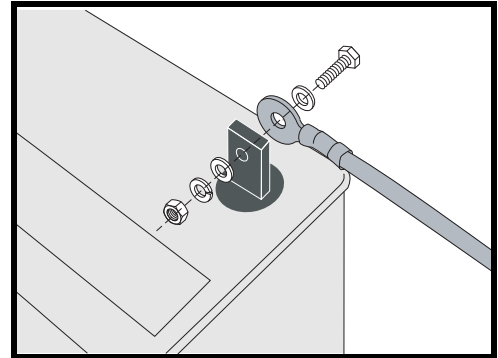

Figure 14. Battery Removal/Installation
4. Disconnect the battery cables from the battery terminals by sliding back the terminal boots and unscrewing the nut from the bolt. **See figure 14.**